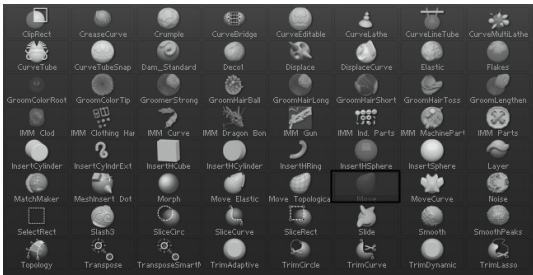

Figure 3-77 The Move brush chosen
13. Choose the Current Brush button from the left shelf; a flyout containing different sculpting brushes is displayed. Choose the **Move** brush from this flyout, as shown in Figure 3-77.